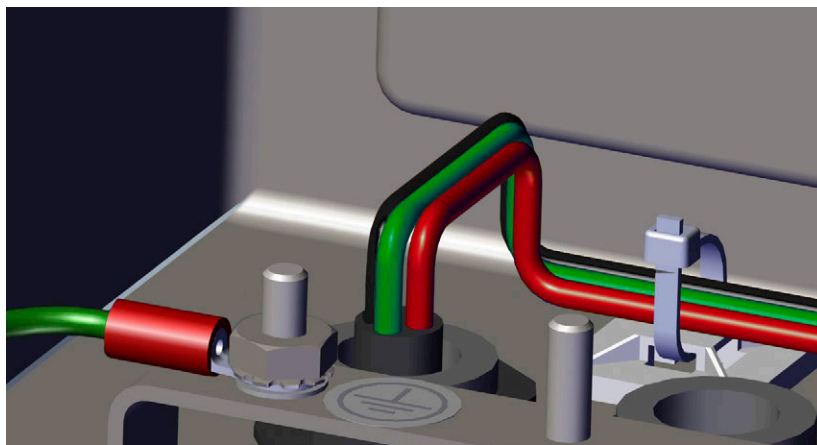

Figure 2-21. DC Power Cable Routing
1. Run the cable up through the cord grip, see Figure 2-21.